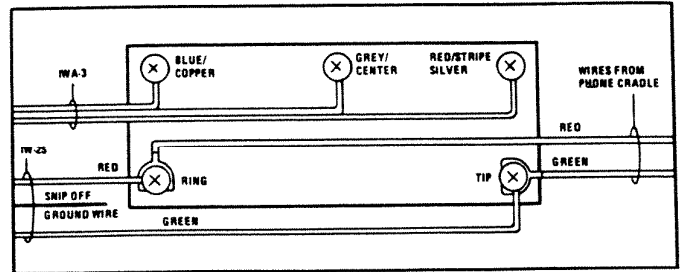

FIGURE 4
Connect color-coded wires from the Master Station to matching terminal screws on the Speaker's printed circuit board. See Figure 1. For phone connection, see "Optional Phone Connection," Figure 4.
8. Connect wires from phone cradle to two screw terminals on the remote speaker's terminal board. Make sure cradle wires match with phone wires: red to red; green to green. See Figure 4.